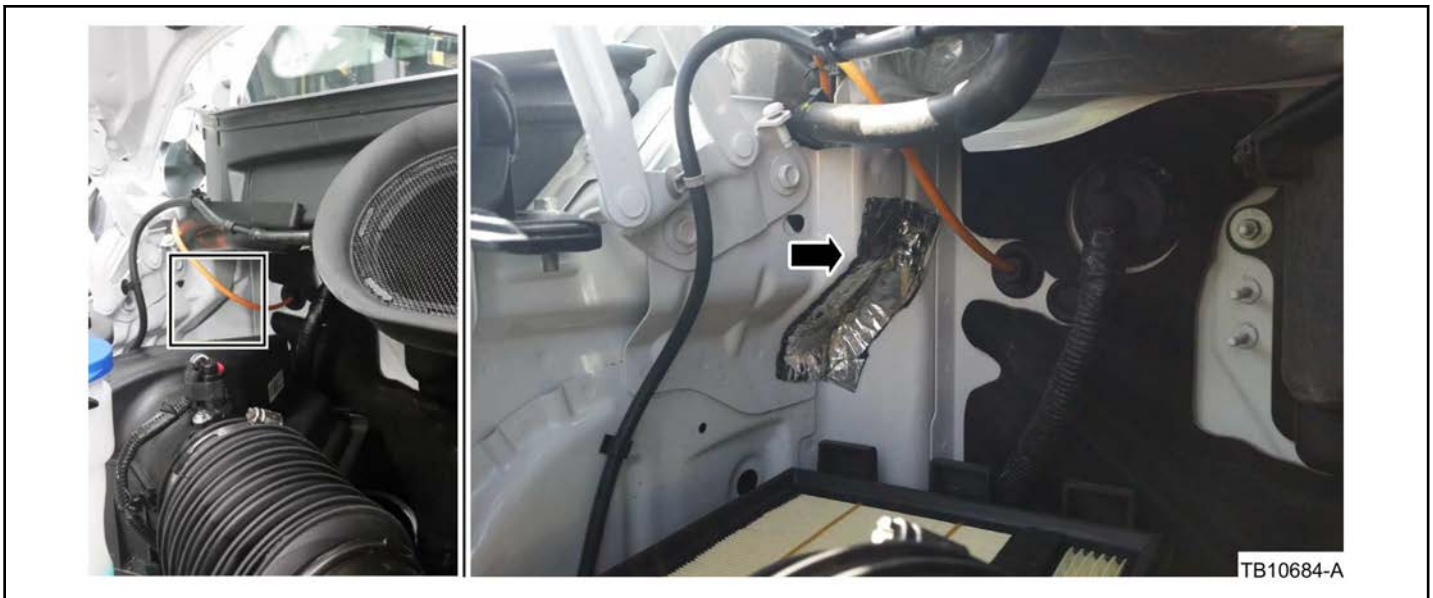

Figure 3 - Article 17-0014
8. Clean the body joint between the right inner fender and dash panel with a Motorcraft® metal surface prep wipe or equivalent. (Figure 3)
9. Cut the mastic patch to 8 cm x 13 cm (3 in x 5 in) and apply the patch to the body joint. (Figure 3)